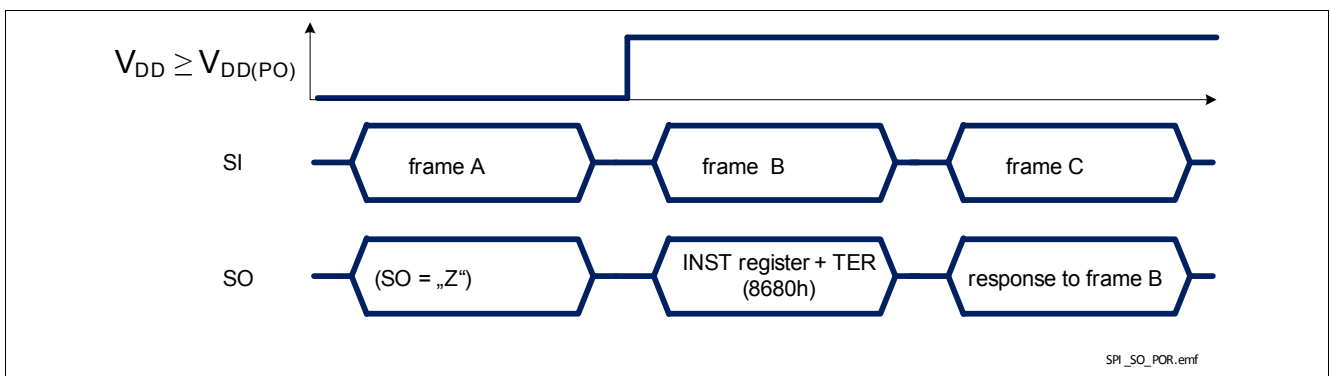

Figure 30 TLE75004-ELD response after coming out of Power-On reset at V_{DD}
- when TLE75004-ELD logic supply comes out of Power-On reset condition or after a Software Reset, as shown in Figure 30